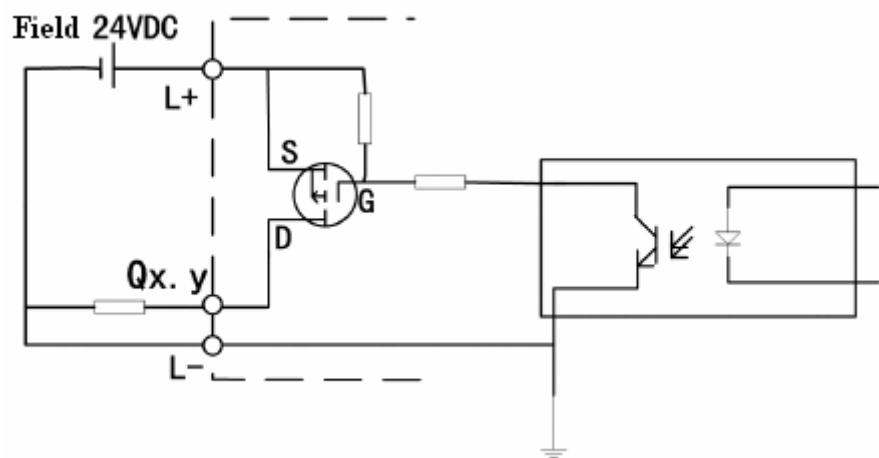

Figure 2.2.4 LM3104 Output Channel Equivalent Circuit
◊ Output channel (DO) equivalent circuit shown in Figure 2.2.4.